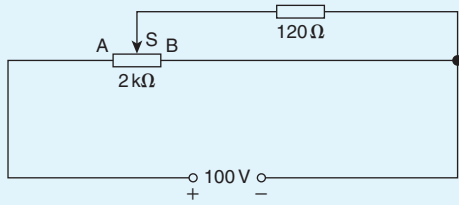

Figure 5.47
- For the circuit shown in Fig. 5.47, the slider S is set at halfway. Calculate the voltage drop across the $120\ \Omega$ load. [9.68 V]